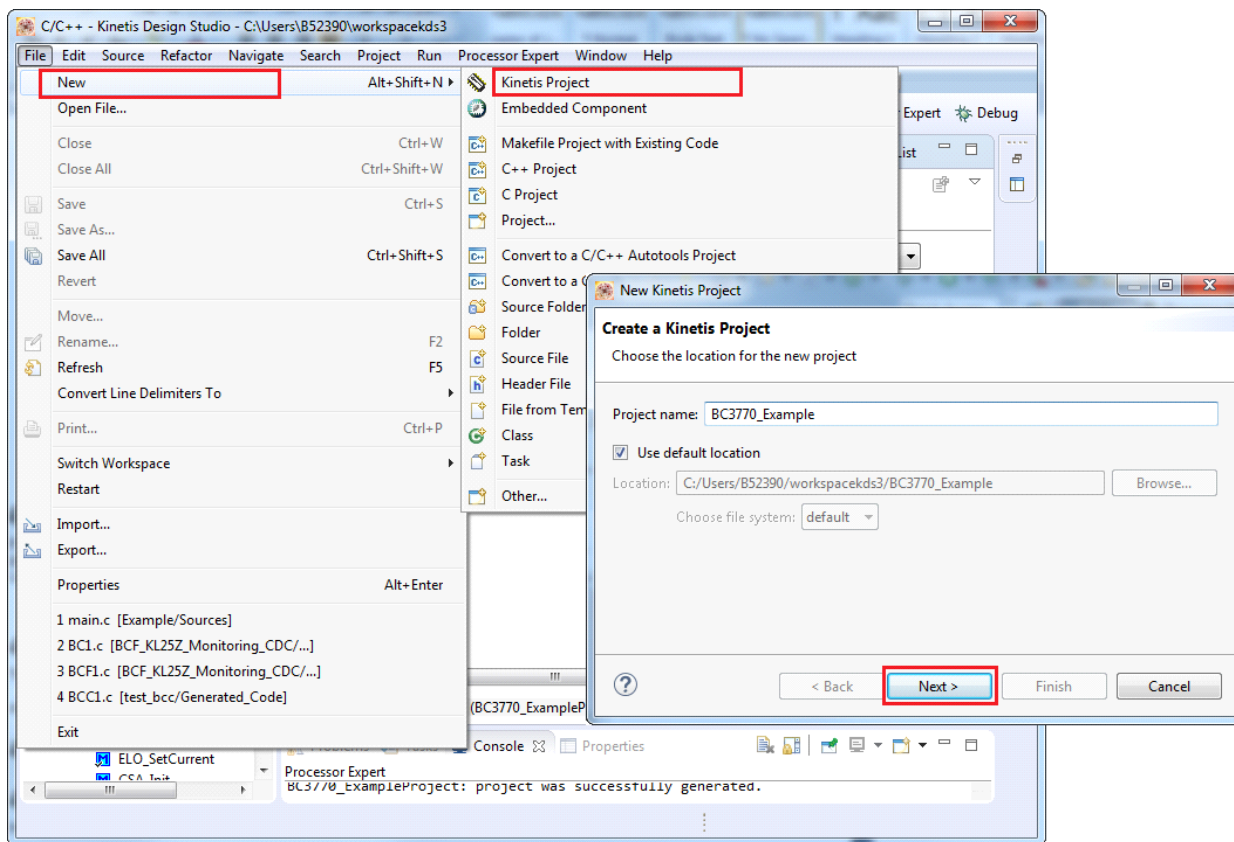

Figure 13. New project creation (a)
1. In the Kinetis Design Studio menu bar, select **File -> New -> Kinetis Project**. When the New Kinetis Project dialog box opens, enter a project name into the text box and then click **Next** (Figure 13).